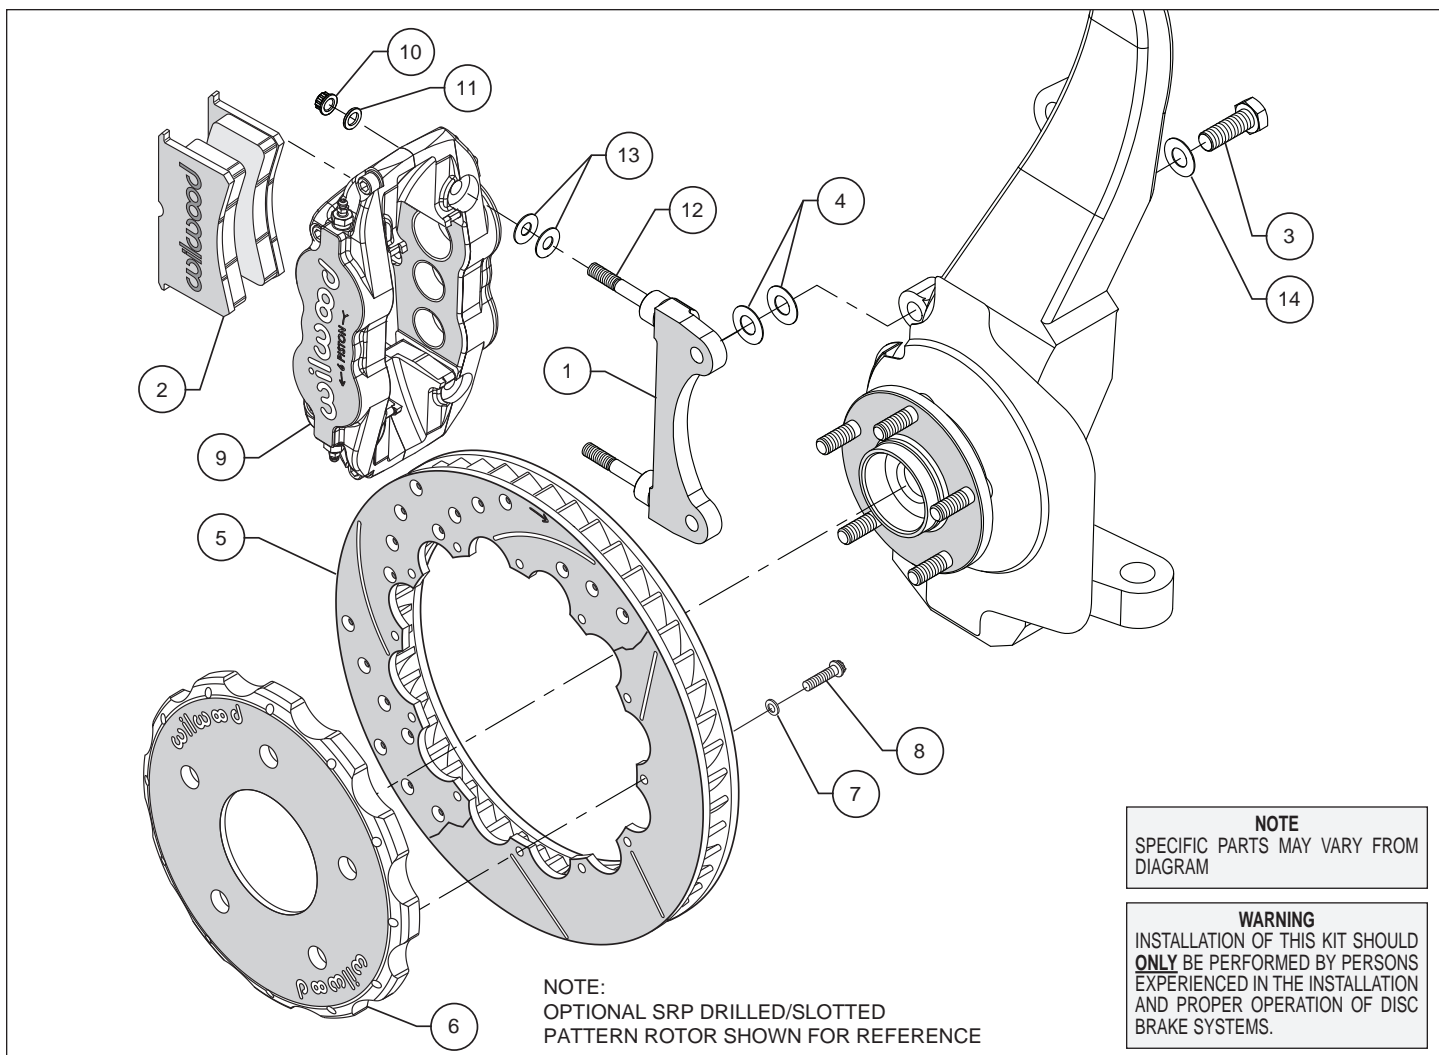
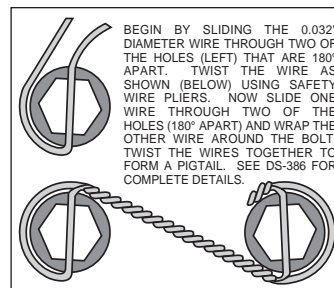

Figure 1. Typical Installation Configuration
Figure 4. Safety Wire Diagram
Assembly Instructions (numbers in parenthesis refer to the parts list and Figure 1 on the preceding pages):
•The caliper mount bracket (1) should initially be installed with clean, dry threads on the mounting bolts. Orient the bracket as shown in Figure 1 and Photo 1, and install using washer (14) and bolts (3). Initially place two additional shims (4) on each bolt between the bracket and upright, Figure 1. Temporarily tighten the mounting bolts. **NOTE:** The bracket must fit squarely against the mount bosses on the upright. Inspect for interference from casting irregularities, machining ridges, burrs, etc. Later, after the caliper alignment has been checked, the mount bolts will be secured using red *Loctite*® 271.
•Orient the rotor (5) and the hat (6) as shown in Figure 1 and Photo 2. Attach rotor to hat using bolts (8) and washers (7). Using an alternating sequence, apply red *Loctite*® 271 to the threads and torque bolts to 155 in-lb. For an added measure of security, the bolts may be safety wired using standard 0.032 inch diameter stainless steel safety wire as shown in Figure 4. Please refer to Wilwood's data sheet DS-386 (available at www.wilwood.com/Pdf/DataSheets/ds386.pdf) for complete safety wire installation instructions.
•**NOTE:** This kit contains distinct right and left hand calipers that must be mounted in a specific direction, as described below. Lubricate the caliper mounting studs (12) with lightweight oil. Initially place two .035" thick shims (13) on each stud as shown in Figure 1 and Photo 3. Mount the caliper (9) onto the bracket (1) using lock nuts (10) and washers (11), Figure 1 and Photo 4. Ensure that the caliper is mounted so that the largest pistons are at the rotor exit end of the caliper, in relation to the direction of rotor rotation. Temporarily tighten the lock nuts and view the rotor through the top opening of the caliper. The rotor should be centered in the caliper, Photo 5. If not, adjust by adding or subtracting shims (4) between the bracket and the upright. Always use the same amount of shims on each of the two mounting bolts. Once the caliper alignment is correct, remove the bracket mounting bolts one at a time, apply red *Loctite*® 271 to the threads, and torque to 75 ft-lb.